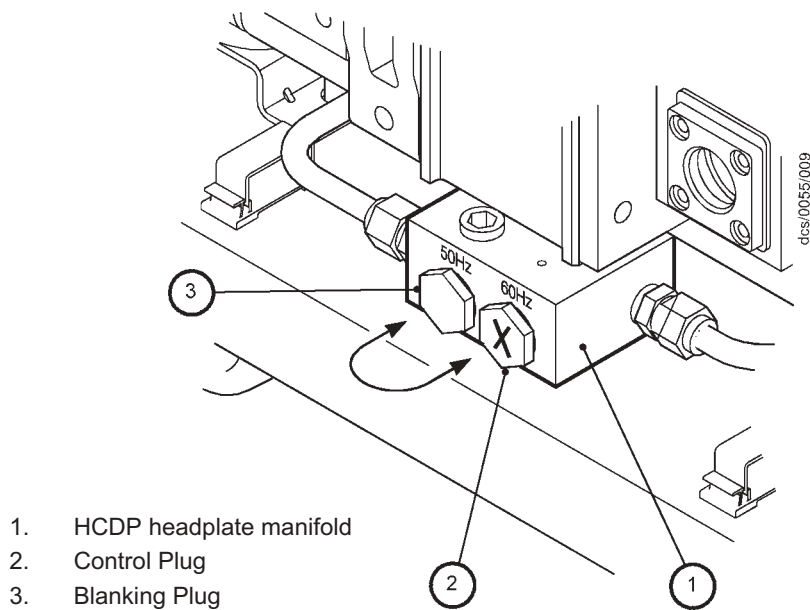

Figure 3-4 - HCDP headplate cooling-water manifold (as supplied)
As supplied, the nitrogen and cooling-water connections are at the rear of the iK500 system (as shown in Figure 1-5) and the cooling water is configured for operation at 60Hz (as shown in Fig 3-4). If required, you can reconfigure the iK500 system so that the nitrogen and/or cooling-water connections are at the front of the iK500 system. (see point 1 below) or for operation at 50Hz (see point 2 below).
2. See Figure 3-4. If the iK500 system will be operating at 50Hz, switch the positions of the control plug (2) and the blanking plug (3) in the HCDP headplate manifold (1) to ensure operation at optimal temperature. The control plug (marked with and 'X') should now be in the 50Hz port and the blanking plug in the 60Hz port.